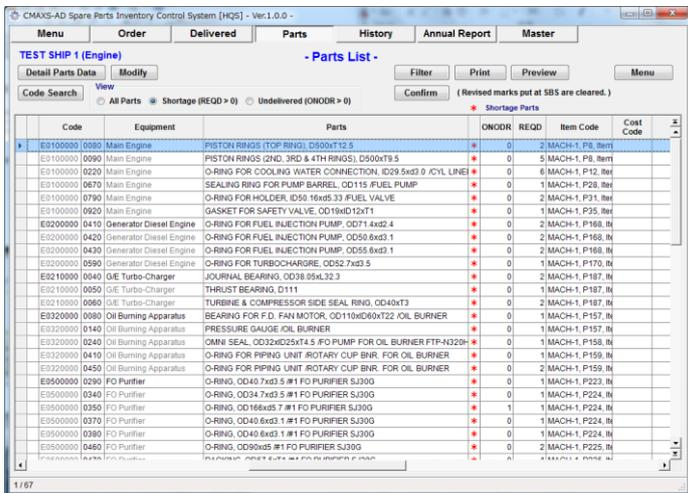

Fig.12-2 Parts List Screen
- (2) “Parts List Screen ”(Fig.12-2) is displayed. In this screen, all spare parts consumed in the last 12 months is displayed.